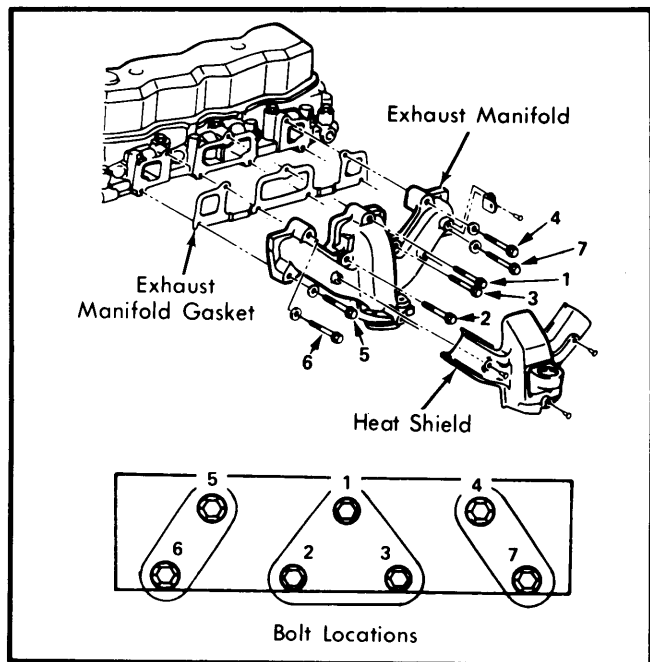

Fig. 2 Exhaust Manifold Tightening Sequence
2) Torque manifold-to-cylinder head bolts using torque sequence shown in *Fig. 2*. Reverse removal procedure to complete installation.